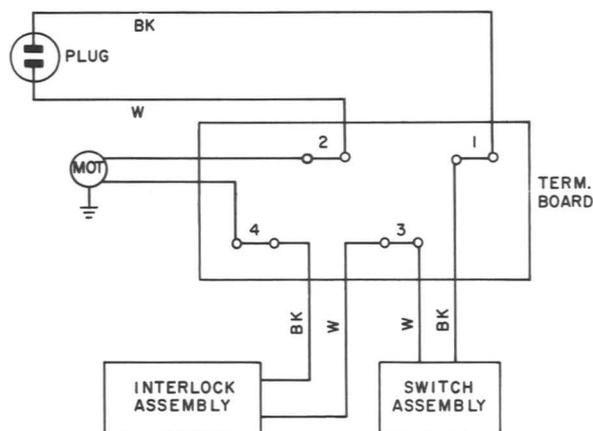

Fig. 30—KS-16797, List 9 (MD) Blower Assembly, Connections
- (3) Remove cover of terminal box assembly.
- (4) Check cord assembly as follows:
- (b) Connect ohmmeter to terminal 1 and 2 of terminal board (Fig. 30).
- (5) Operate BLOWER switch to ON position.
- (6) Check blower switch assembly as follows:
- (a) Connect ohmmeter to terminals 1 and 3 of terminal board (Fig. 30).
- 0 reading indicates switch assembly is good; continue to (7).
- (7) Operate interlock switch by closing booth door. Ensure that BLOWER switch is in OFF position.
- (8) Check interlock switch assembly as follows:
Inspect the blower switch and interlock switch assemblies. If their condition is good, connect their leads to terminal board per Fig. 30; if their condition is questionable, replace as directed in 4.30 or 4.31.
- (1) Tie a wire or string to the switch assembly leads at the end disconnected from the terminal board.
- (2) Remove and retain two No. 8-32 by 5/8 RH self-tapping screws which secure switch assembly to corner post.
- (3) Pull switch assembly until leads are removed from wire channel and wire or string is exposed.
- (4) Untie wire or string from leads of old switch and tie to leads of new switch.
- (5) Pull wire or string and feed switch leads through wire channel to terminal board. Untie wire or string.
- (6) Mount switch in position on post and secure it with the two screws retained in (2).
- (7) Connect leads to terminal board per Fig. 30.
- (1) Tie a wire or string to the switch assembly leads at the end disconnected from terminal board.
- (2) Remove and retain two No. 6-32 by 1-1/16 BHM screws, two No. 6 lockwashers, and two No. 6-32 hex nuts which secure switch assembly to track assembly.
- (3) Repeat 4.30 (4) and (5).
- (4) Mount switch in position on the upper surface of the track assembly with its operating bracket extending through the track.
- (5) Secure switch to track assembly using hardware retained in (2); lockwashers and hex nuts shall be on top side of track.
- (6) Connect leads to terminal board per Fig. 30.